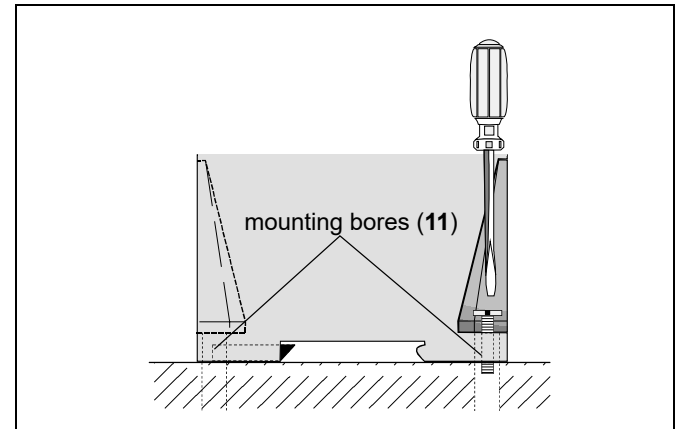

Fig. 5-2: Mounting with two M4 screws
- The rotational speed monitoring device EDO is provided with two mounting bores (11) for fastening screws.
2. Fasten the device with two suitable M4 screws (s. fig. 5-2).